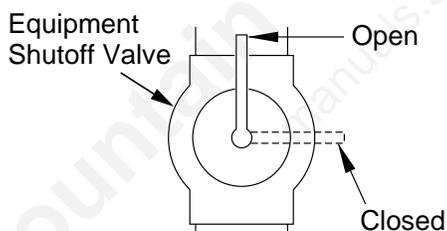

Figure 8- Equipment Shutoff Valve
1. Close equipment shutoff valve (see Figure 8, page 11).
1. Open equipment shutoff valve (see Figure 8).